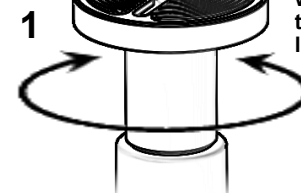

Fig. 1 - Attaching the MonoGimbal to a 3/8-16 Threaded Stud
**Step 1: Attach the head to the monopod** See Fig. 1. Rotate the monopod counter-clockwise to attach the head on the 3/8 threaded stud on the monopod. Do not install the safety stop screws if you intend to use the head without a QR clamp.